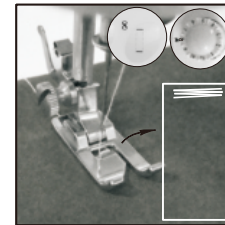

Fig.17
- (1) Put the cloth under the presser foot and lower the presser foot on the cloth where you need to sew buttonhole, then choose the stitch pattern #8.
- (2) Turn on the switch and sew 5-6 stitches in low speed, then turn off the switch (Fig.17).